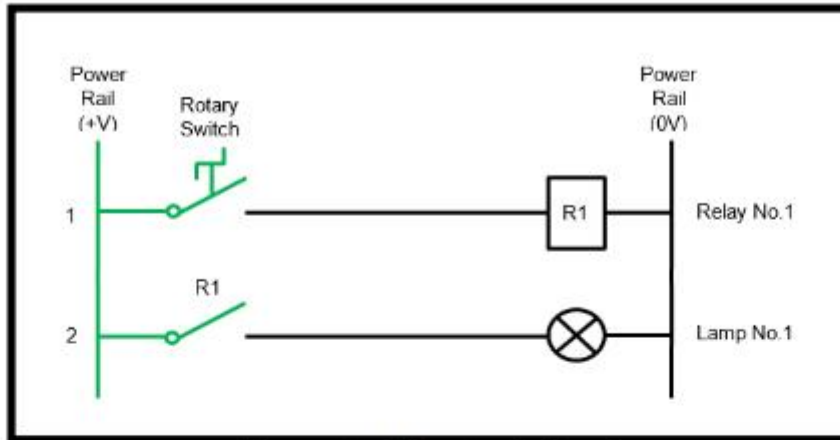

Figure 2.36: Relay Logic Circuit
1. Figure 2.36 is an example of the relay logic circuit, which shows a light (No. 1 light) is turned on through a relay (No. 1 relay).